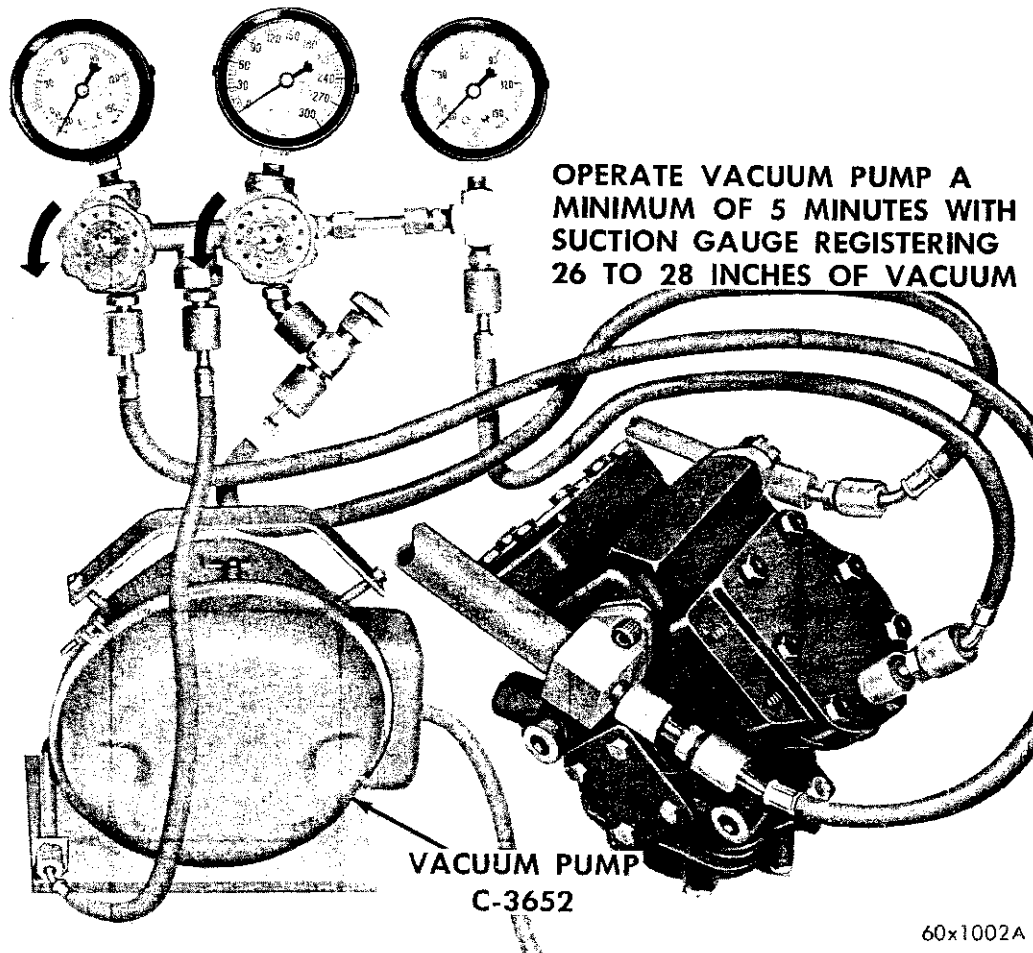

Fig. 51—Evacuating the System
- (1) Connect the gauge set manifold to the compressor and the long test hose from the gauge set manifold center connection to the vacuum pump (Tool C-3652) as shown in Figure 51.
- (2) Open both gauge set manifold valves and the needle valve.
- (3) Start the vacuum pump and operate until the